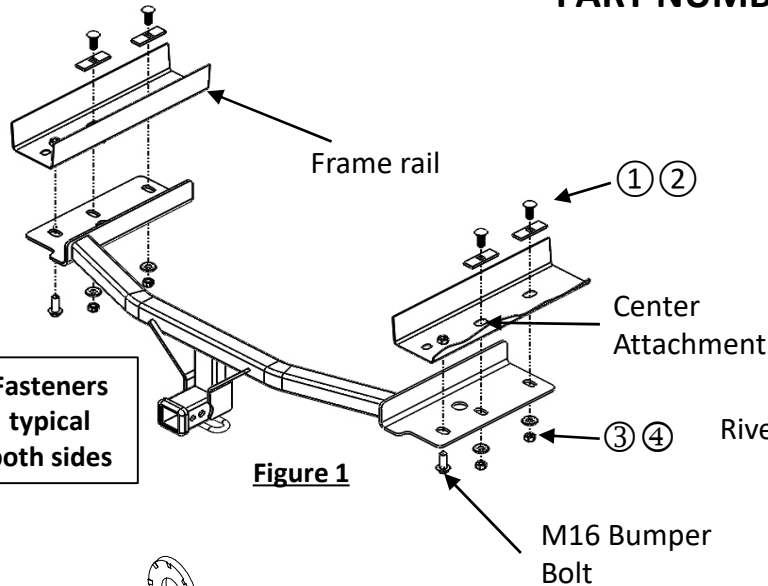
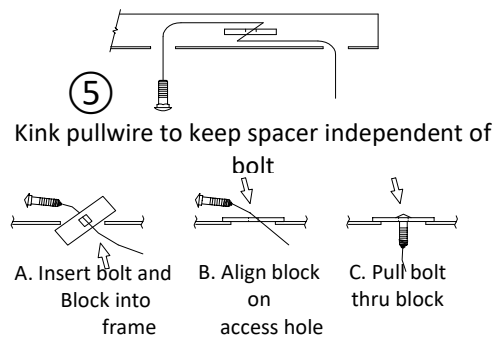

Figure 1
Figure 4
- Install hitch** – Using the supplied pullwires ⑤ install the carriage bolts ① and spacers ② into the vehicle frame through the center attachment, see **Fig. 4**, leave pullwires attached. Make sure weldnuts are free from rust and debris. Raise the hitch into position and align holes in hitch bracket to the frame rail weldnuts guiding the pullwire ends through holes in the hitch bracket and loosely reinstall the M16 bumper bolts removed in step 4. Remove pullwires, install conical washers ③ (teeth side toward hitch) and nuts ④, see **Figure 1**.
8. **Install hitch** – Using the supplied pullwires ⑤ install the carriage bolts ① and spacers ② into the vehicle frame through the center attachment, see **Fig. 4**, leave pullwires attached. Make sure weldnuts are free from rust and debris. Raise the hitch into position and align holes in hitch bracket to the frame rail weldnuts guiding the pullwire ends through holes in the hitch bracket and loosely reinstall the M16 bumper bolts removed in step 4. Remove pullwires, install conical washers ③ (teeth side toward hitch) and nuts ④, see **Figure 1**.